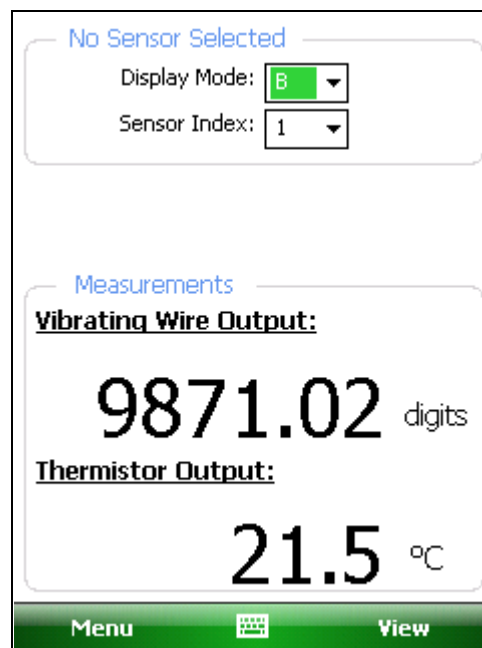

Figure 17 - Live Readings - Generic Mode
- B) After a few seconds, the blue light on the Remote Module should change to a steady state blue (lit but not flashing) and the Live Readings Window will be displayed (see section 3.2, "Live Readings Screen (Generic Mode)" - Figure 17).
- C) From the Live Readings Window (see Figure 17), different display modes may be selected as appropriate for the sensor (see section 3.2.1, "Display Mode"). If a sensor is connected that contains more than one vibrating wire "cell", the "Sensor Index" may be changed to view the vibrating wire output for each "cell", or the average may be displayed.
Following a successful Bluetooth connection, the GK-405 VWRA will boot up displaying the screen shown in Figure 17. This is the Live Readings screen and it is shown in “Generic Mode”, meaning that there is no sensor selected. The following sections describe the GK-405 VWRA user interface in greater detail.
Figure 17 shows a typical vibrating-wire piezometer output in digits and thermistor output in degrees Celsius.